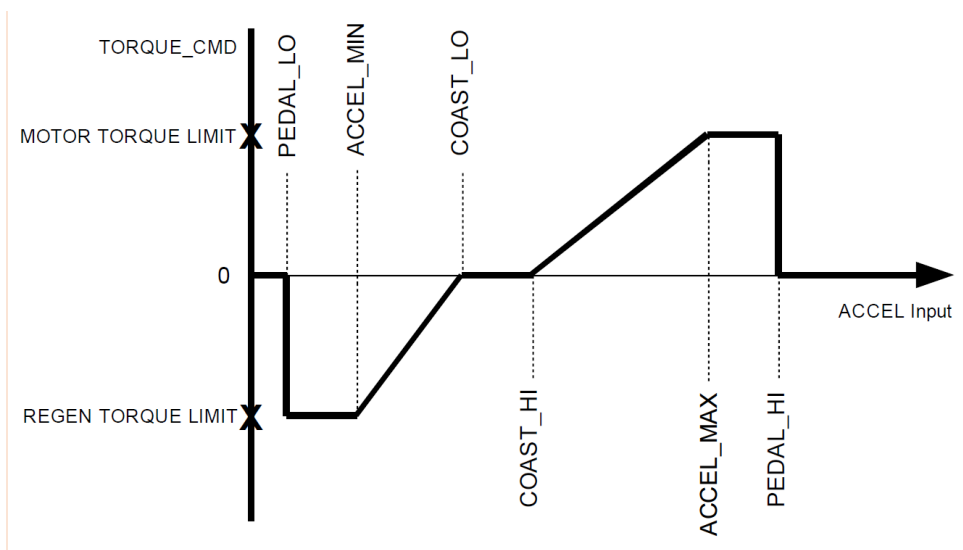

Figure 7-2 Motor Controller torque input mapping
8. Motor controller is set to use following thresholds (see Figure 7-2), effectively performing another plausibility check: